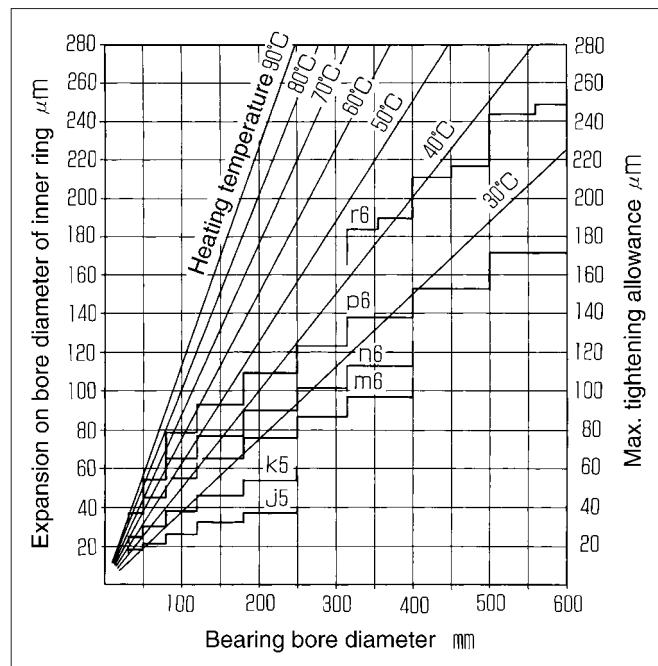

Fig. 9.19
- To install a medium or large bearing, a shrink-fitting technique can be conveniently employed. The heating temperature for shrink-fitting can be selected from **Fig. 9.19** based on the bearing dimensions and tightening allowance requirements. Remember the temperature of the bearing must not exceed 120°C.